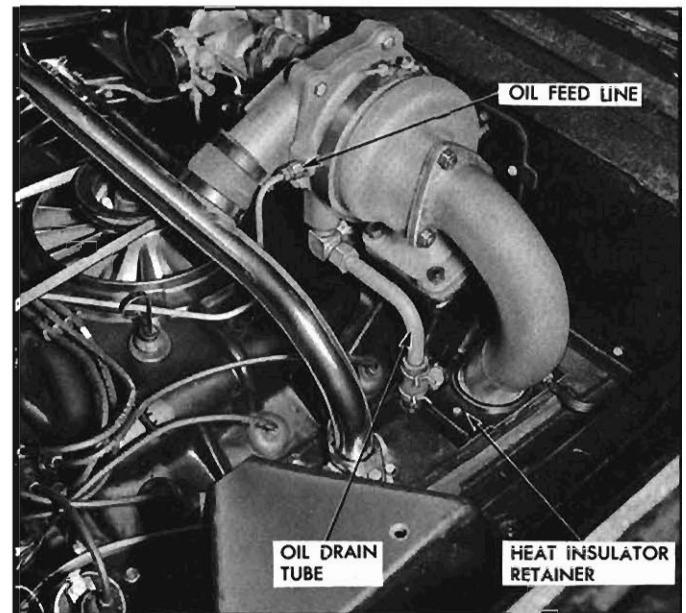

Fig. 40—Supercharger Oil Lines
- Remove supercharger heat shield, then disconnect oil feed line and drain line at supercharger housing (fig. 40).